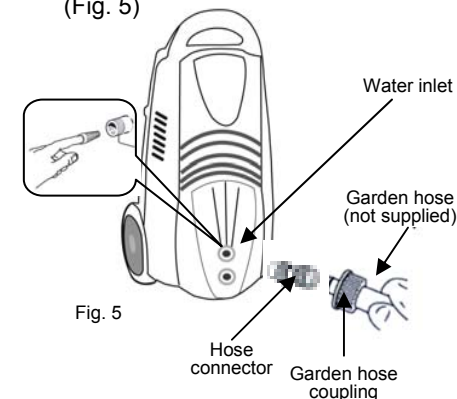

Fig. 5
1. Make sure that the water intake filter is inside the water intake inlet. (Fig. 5)
2. Attach the male adapter (supplied) to the water intake connector on the front side of the unit. (Fig. 5)
3. Attach the female hose coupling to the garden hose. (Fig. 5)
4. Connect the female hose coupling to the male adapter making sure that it is secured in place. (Fig. 5)